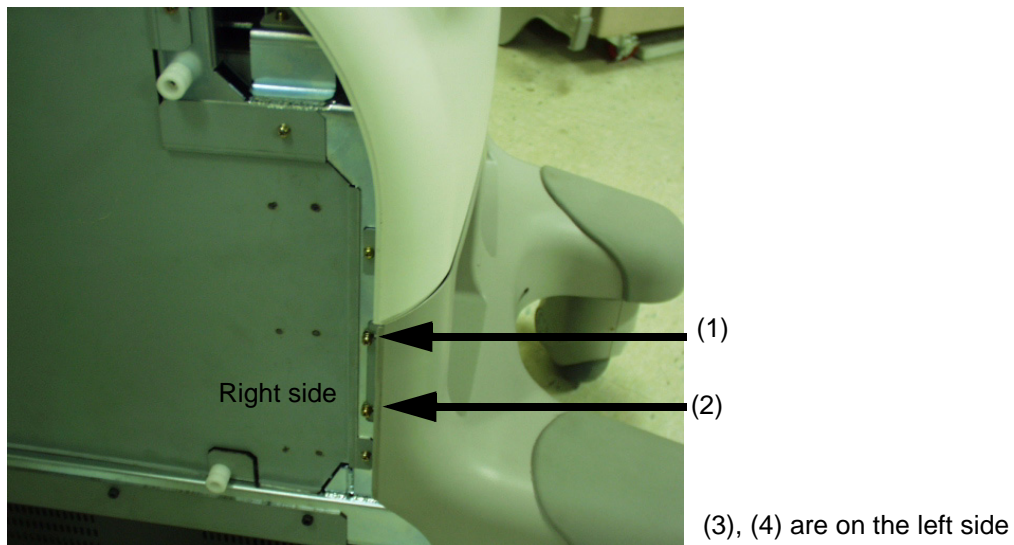

Figure 8-49 Unscrew 2 screws on the Right side
- 3.) Unscrew four screws (1-4). Refer to Figure 8-49.